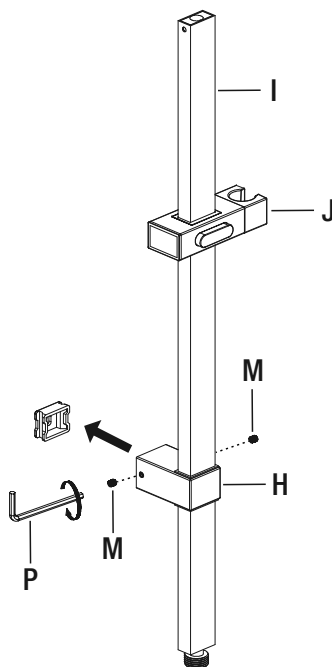

Fig.7
- Affix the bottom bracket (H) to the wall mounted base and tighten the set screws (M) as shown in figure 7.